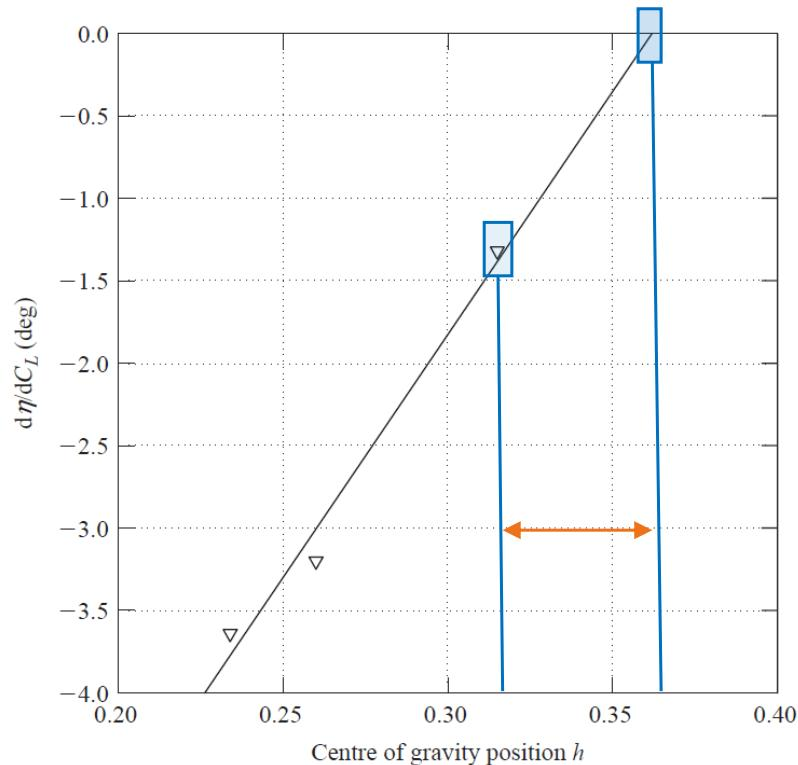

Figure 3.11 Determination of controls fixed neutral point.
3. This is most easily done graphically as shown in Fig. 3.11..